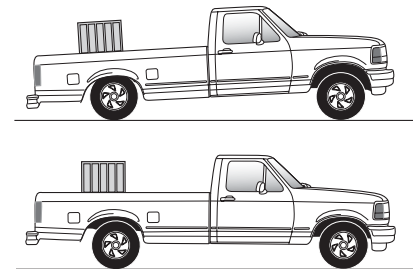

Figure 6: Top truck is unlevel and is bottoming out. Increase air pressure to prevent bottoming out, as in bottom truck.
5. If it is ever suspected that the air bags have bottomed out, increase the pressure (Figure 6).